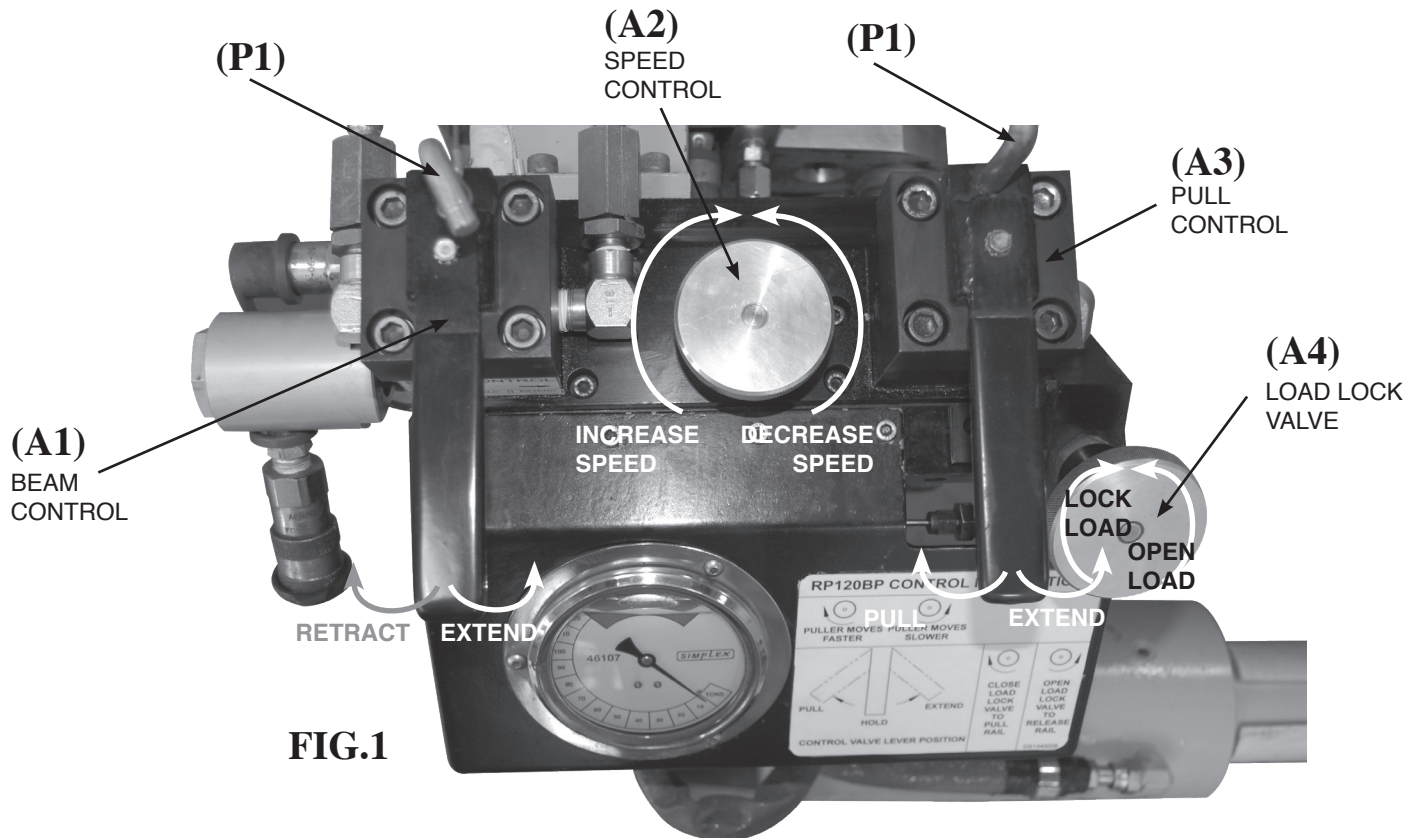

FIG.1
**NOTE:** REMOVE THE LOCK PINS {(P1) IN FIG. 1} WHEN SHIFTING CONTROL HANDLES FOR SAFETY, REPLACE WHEN VALVES ARE NOT IN USE.